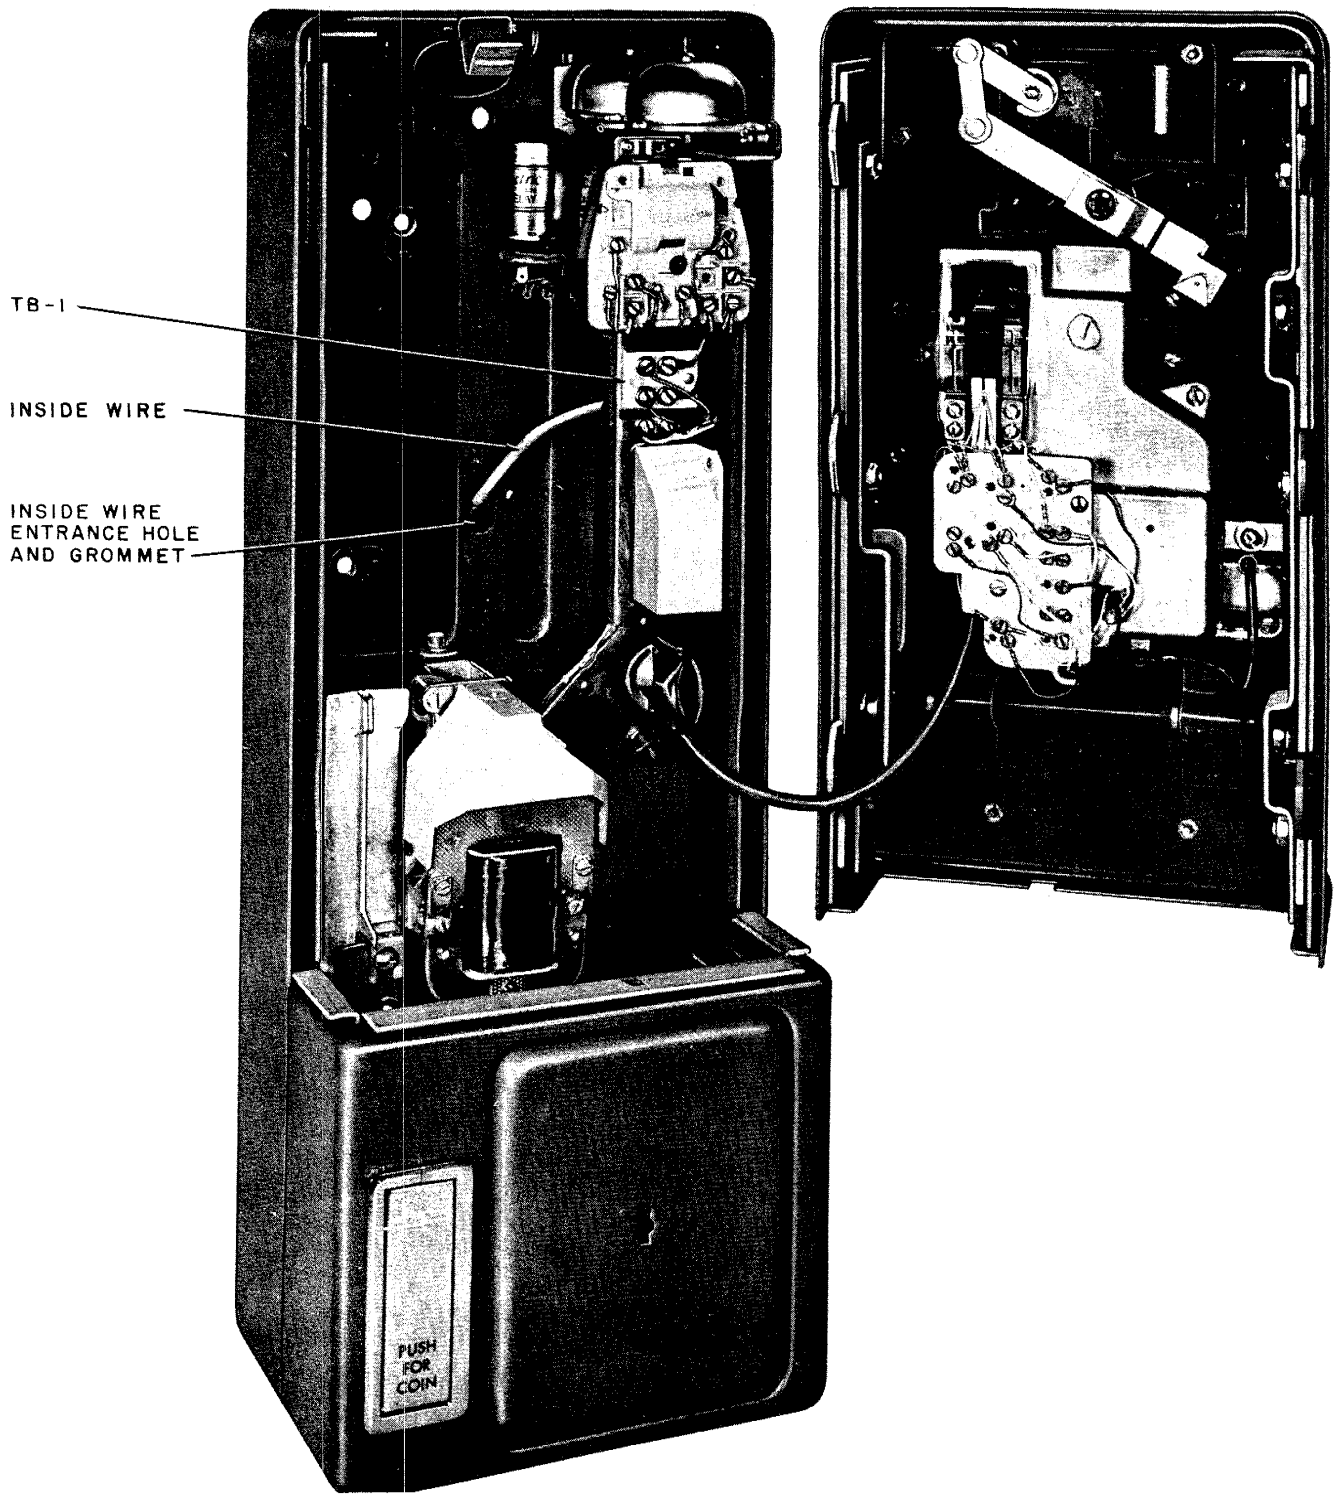

Fig. 11—1A-Type Coin Telephone Showing Wire Entrance and Routing (Typical)
**Note:** When installing chassis assembly, dress inside wire behind chassis as shown in Fig. 11. Allow for the wire to be connected to TB-1 from right side.
4.17 See Fig. 11 for correct routing of inside wire. Dress wire behind chassis and run to right side of TB-1.